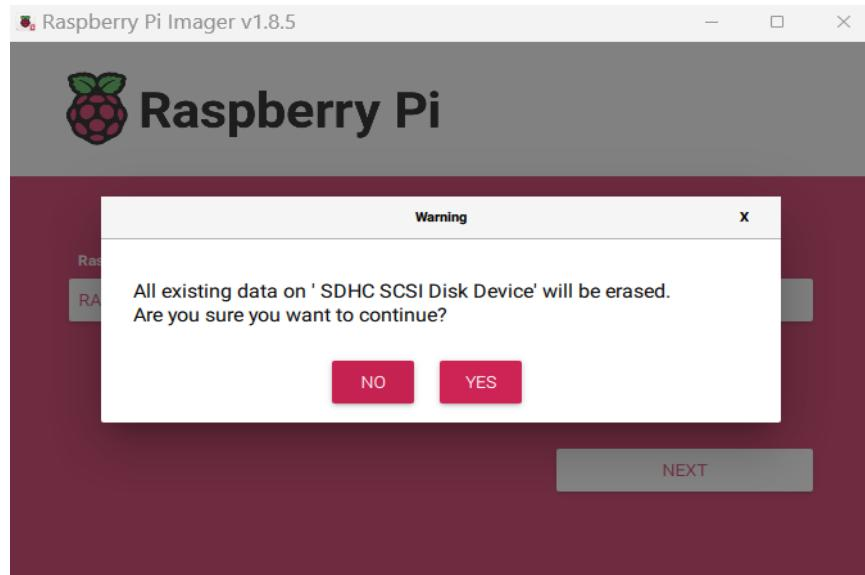

Figure 28. Select YES to create the image.
5. When settings are complete, select Save and you will be prompted to create the image (Figure 28).